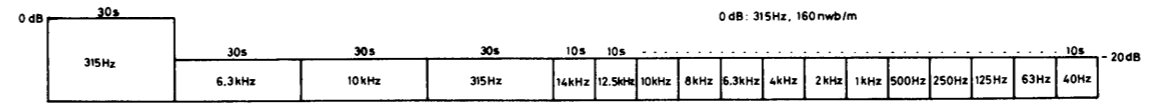

Fig. 11-4 STD-331B test tape
- STD-331B* : Playback adjustments (see Fig. 11-4)